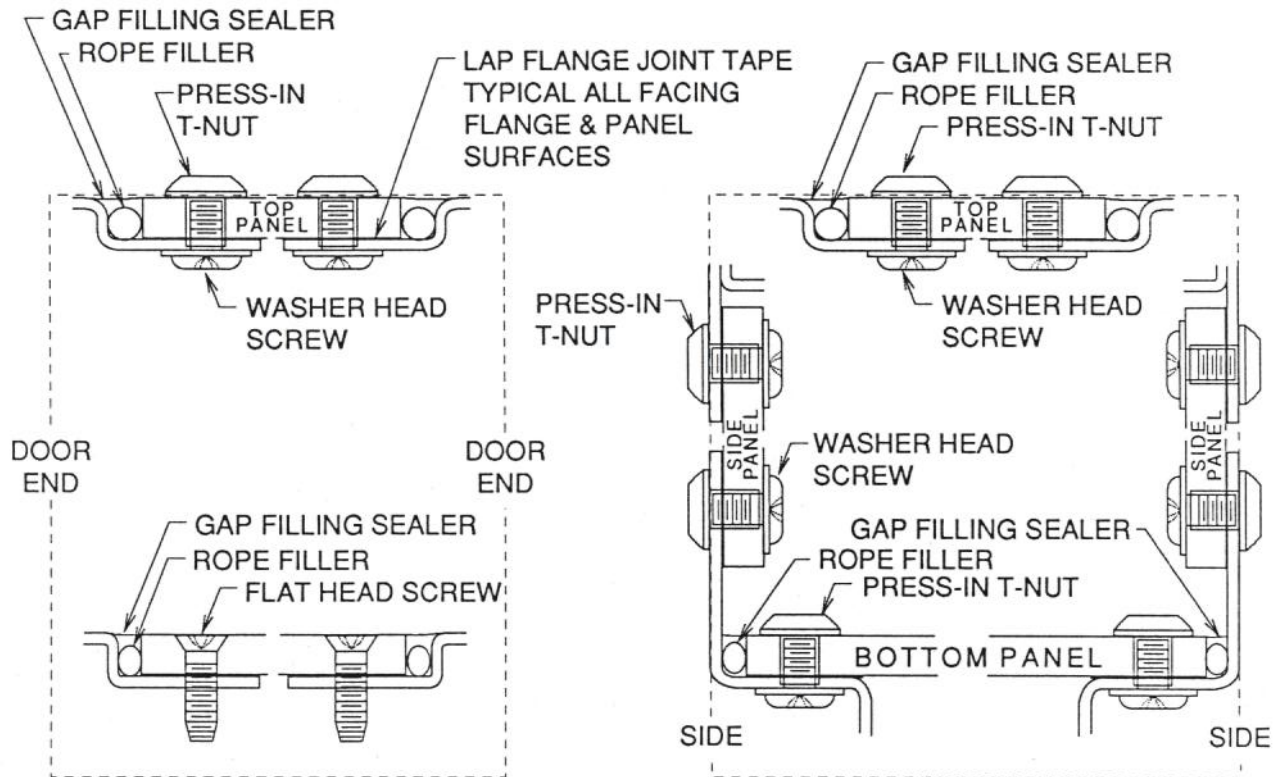

Figure 3-2. Panel Installation
- i. Install press-in T-nuts as indicated in figure 3-2 for the panel being replaced. Use a hammer to tap the nuts into place. A 2 lb. dead blow hammer is recommended, but a regular hammer may be used if used carefully.